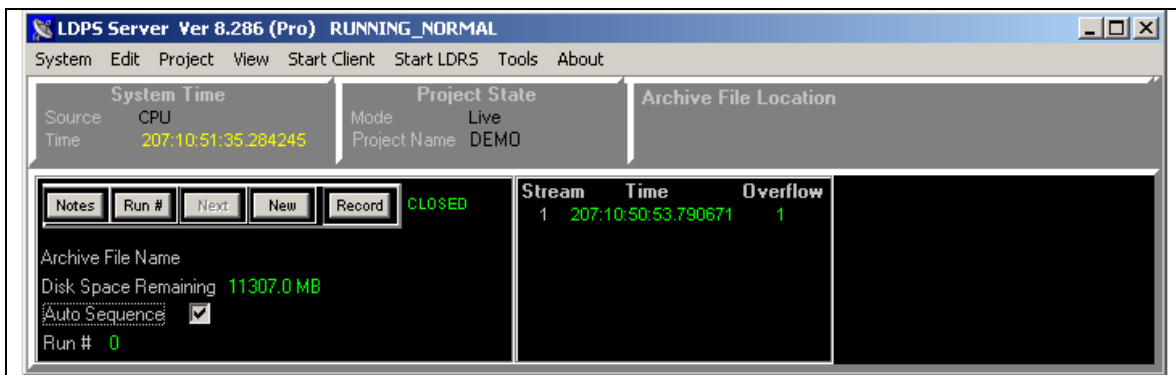

Figure 2-19 LDPS Archive Recording Controls
When a project is loaded in live mode, an archive control window like the one seen in Figure 2-19 on page 70 will be created to control the archiving function. This control is located at the bottom left of the server window. If the options are set to allow automatic archive filenames (see paragraph 2.11.2 on page 55), then there is nothing to do except press the recording button. The archive control employs five (5) buttons, from left to right, that perform the following functions: